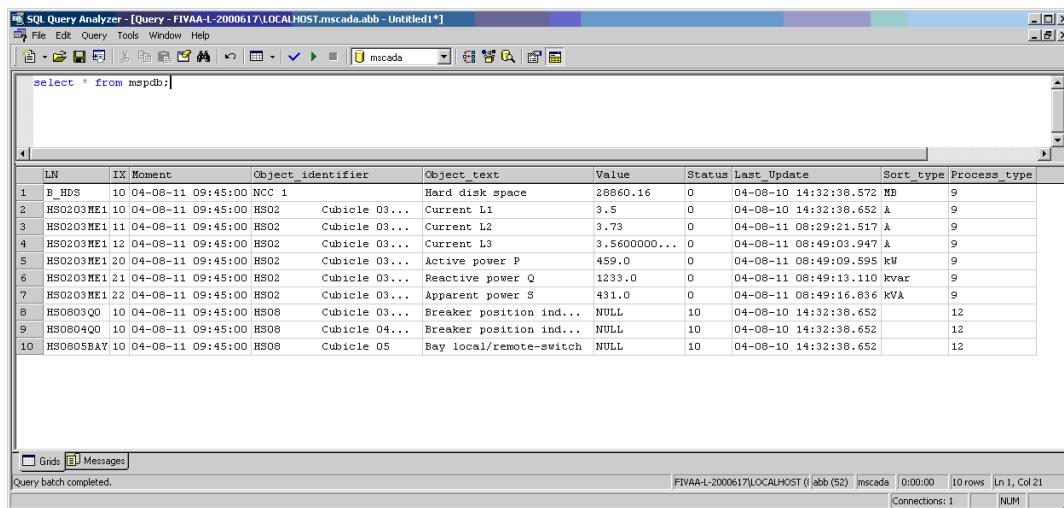

Figure 41: Testing the database connection
3. Try a simple query to see the content of the database, for example, see Figure 41.